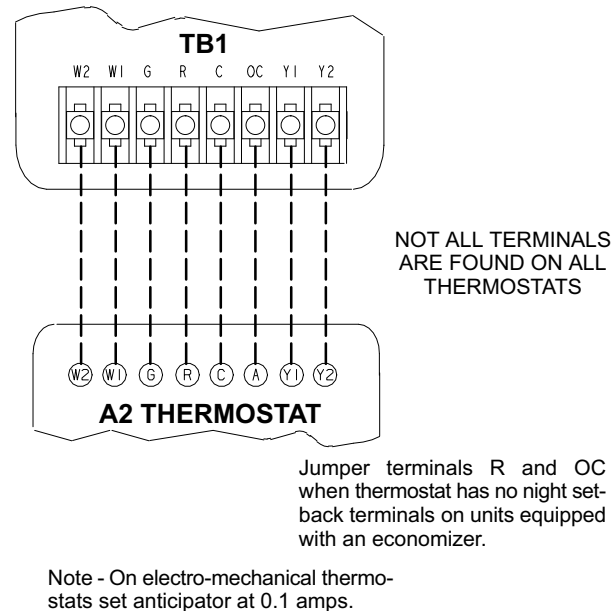

FIGURE 9
- 3- Connect thermostat wiring to TB1 terminal board on the lower side of the controls hat section. Wire as shown in figure 9 for electro-mechanical and electronic thermostats. If using other temperature control devices or energy management systems see instructions and wiring diagram provided by manufacturer.